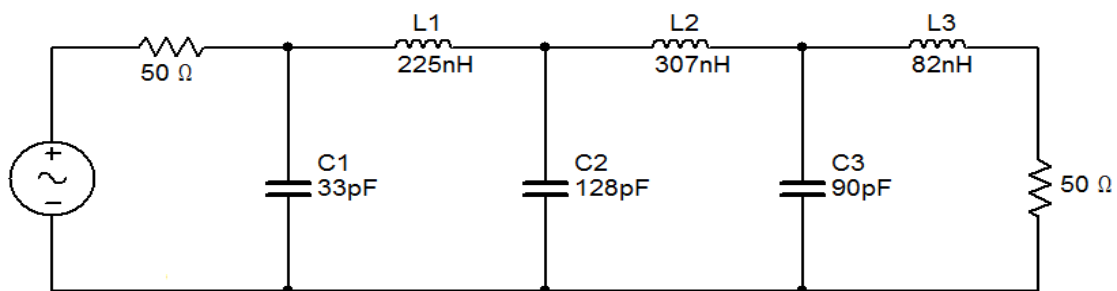

Fig: 7
Finally we calculate the actual values of components using (2) and get the fig. 7.
4. Connect the circuit as shown in fig. 7.
6. Find the BW of the circuit in fig. 7.
9. Do the time domain analysis of fig. 7 using the oscilloscope.
1. Connect the circuit as shown in fig. 7.